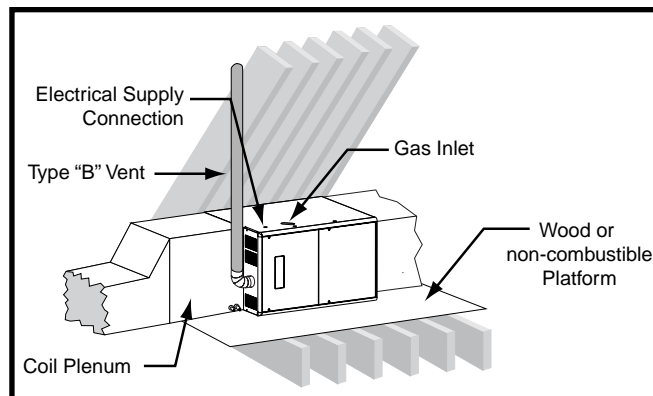
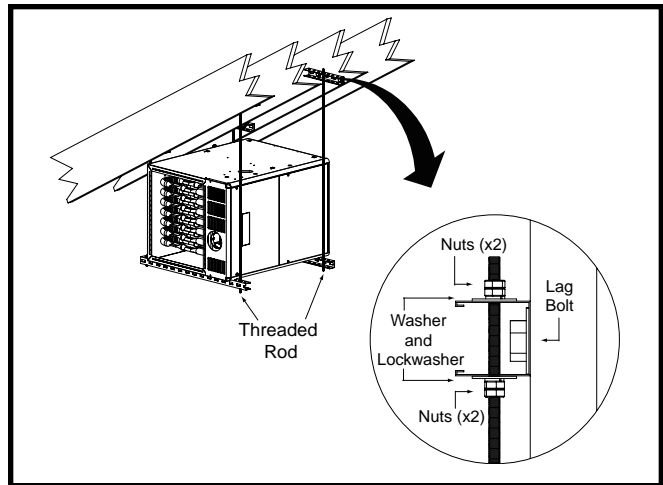

Figure 7. *SA Horizontal Installed on a Platform
Figure 8. *SA Horizontally Suspended in Attic
- The *SA series gas furnace can be installed horizontally (Figure 7) in an attic, basement, crawl space or alcove. It can also be suspended from a ceiling in a basement or utility room in either a right to left airflow or left to right airflow as shown in Figure 8.
- If installing the furnace in an attic, it is required that a drip pan be placed under the furnace. If the installation is on a combustible platform (Figure 7), it is recommended that the drip pan extend at least 12 inches past the top and front of the furnace.
- If suspending the furnace from the ceiling, assemble a support frame (Figure 8) using slotted iron channel and full threaded rod. Fasten the frame together with nuts, washers, and lockwashers. Secure the support frame to the rafters with lag bolts. The furnace can also be suspended using steel straps around each end of the furnace. The straps should be attached to the furnace with sheet metal screws and to the rafters with bolts.